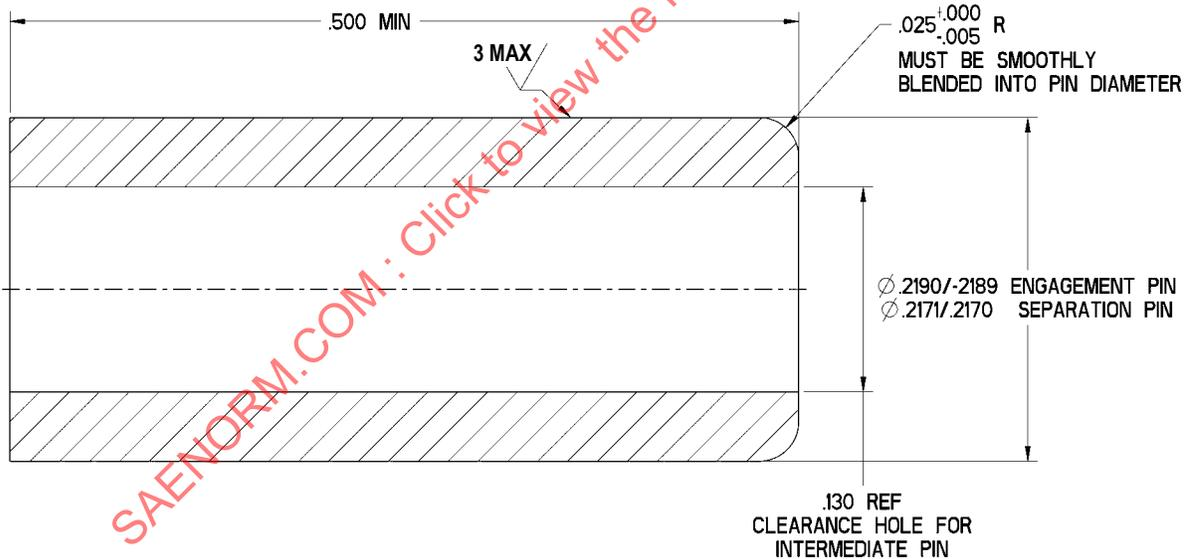

FIGURE 6 - OUTER SOCKET ENGAGEMENT AND SEPARATION TEST PIN DIMENSIONS
3. POINT AT WHICH SQUARE ENDED PIN OF THE SAME BASIC DIAMETER AS THE MATING CONTACT FIRST ENGAGES THE INNER AND OUTER SOCKET CONTACT SPRINGS. (SEE REQUIREMENT 5.) PROVISIONS FOR CLEARANCE HOLE SHALL BE PROVIDED FOR THE OUTER CONTACT TEST PIN. (SEE DRAWING AND FIGURE 6.)
CONTACT ENGAGEMENT AND SEPARATION FORCE: THE ENGAGEMENT AND SEPARATION FORCES SHALL BE TESTED WITH PINS INSERTED A MINIMUM OF .070 IN. THE TEST PINS SHALL BE IN ACCORDANCE WITH FIGURES 6 AND 7. ENGAGEMENT AND SEPARATION FORCES SHALL BE IN AS SPECIFIED IN TABLE 5